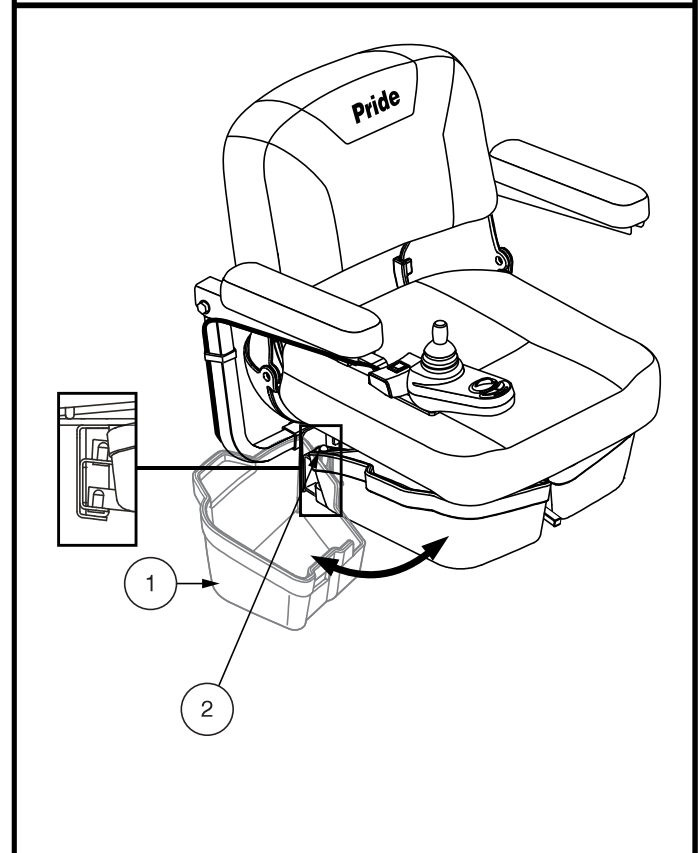

Figure 14. Under-seat Storage
1. Lift up slightly on the latch on the side of the under-seat storage bin (**See figure 14**) and swing the under-seat storage bin out and away from the travel chair.
1. Lift up slightly on the latch on the side of the under-seat storage bin (**See figure 14**) and swing the under-seat storage bin out and away from the travel chair until it is fully open.
1. Remove the rearmost screw that holds the under-seat storage (if equipped) (**see figure 14**) hinge to the seat base on both the left and right seat hinges.